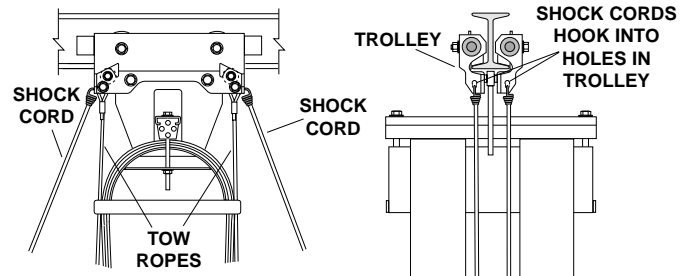

FIGURE 22—SHOCK CORD INSTALLATION
- 1. Mount two shock cords between each pair of trolleys as shown in Figure 22.